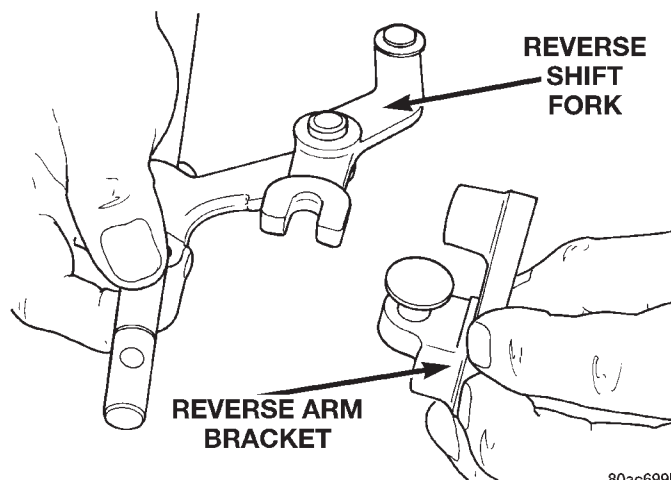

Fig. 80 Install Reverse Arm Bracket to Fork
- (8) Assemble the reverse arm bracket to the reverse fork (Fig. 80).